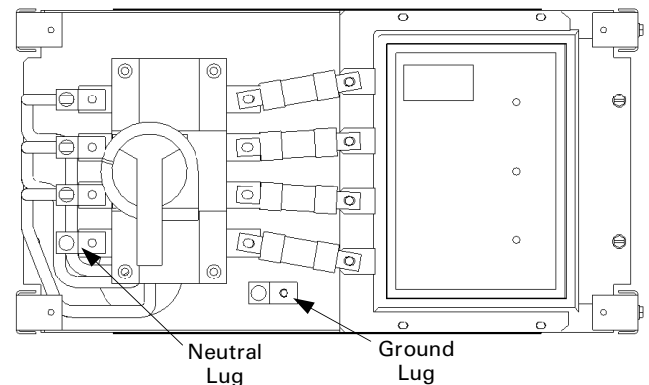

Figure 2. Locations of the ground and neutral lugs in the TVSS unit.
- 3. Installing the ground and neutral cable.** Locate the lugs marked Ground and Neutral (if required), as shown in Figure 2. Loosen the hex screws on the lugs with an Allen wrench (not provided). Locate the roll of #2 copper cable [1] and determine the shortest route to the equipment neutral (if applicable) and ground. Cut one end of the cable and remove approximately  $\frac{5}{8}$  inch of the shielding. Insert the end of the #2 copper cable [1] into the lug marked Ground and tighten the hex screw to 150 lb.-in. Repeat this process with the remainder of the #2 copper cable [1] for the Neutral connection, if applicable.